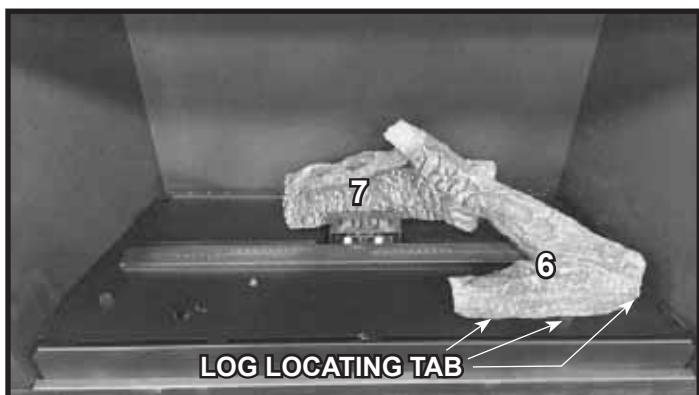

Figure 18. Place Log #6
18. Install Log #6 by locating the placement tabs in front of the burner near the front right corner of the base pan. Set Log #6 on the base pan and bring it forward so that it contacts the front two placement tabs. Slide Log #6 to the right until it contacts log placement tab on right side of basepan. Log #6 should lean back and rest on Log #7. See Figure 18.